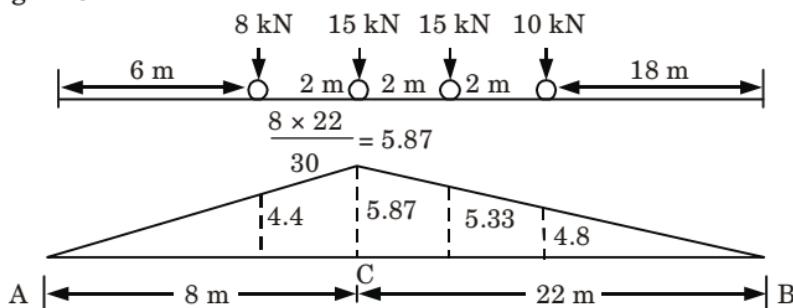

Fig. 4.19.2.
- ILD for the maximum bending moment at the section  $C$  as shown Fig. 4.19.2.